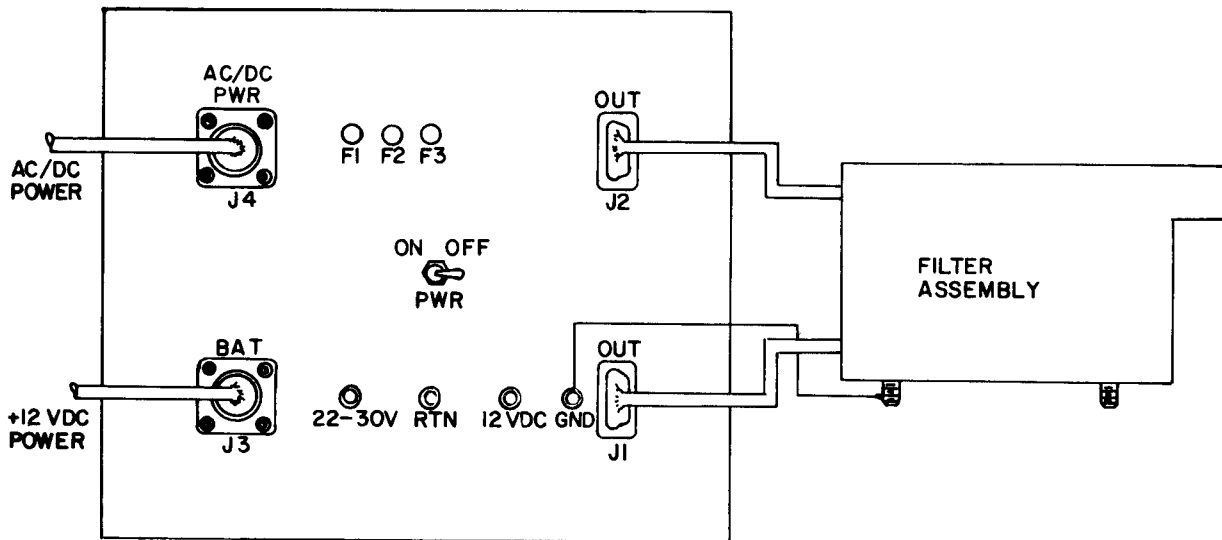

Figure 6-24. FILTER TEST SETUP.
- d. Test Setups and Procedures for Filter Assembly (fig. 6-24).